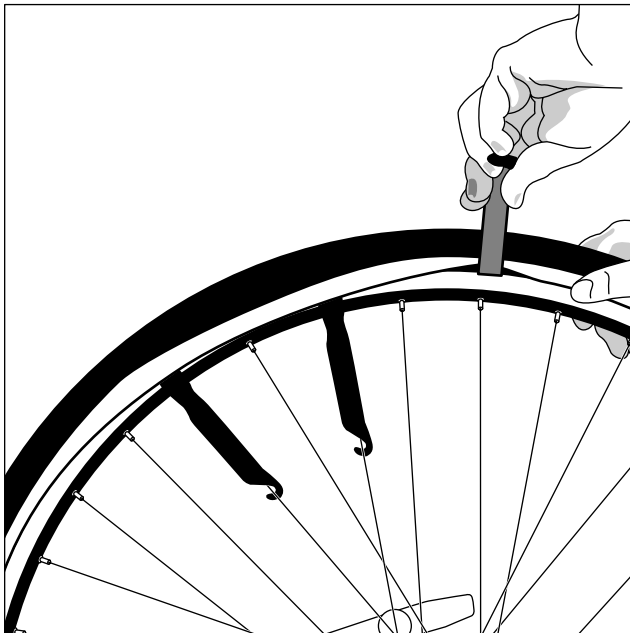

Figure 6-2:
6. Repeat steps 2 and 3 with the third lever, but instead of hooking the lever to a spoke, start dragging the lever around the wheel away from the first and second levers (as shown in Figure 6-2).